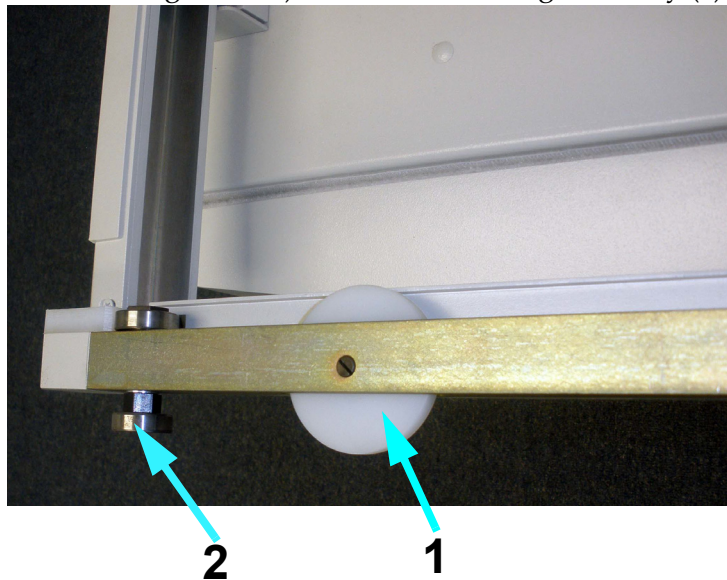

Figure 2-35. Left Guide Roller and Bearing
- 57** Slide the table to the right and reinstall the left guide roller (1 in Figure 2-35) and the left bearing assembly (2).